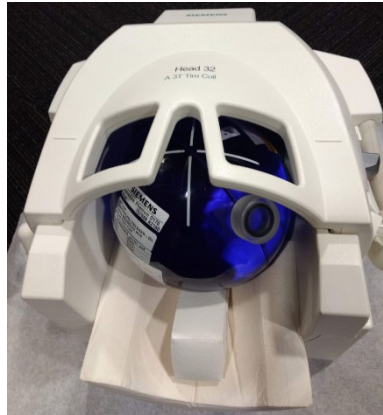
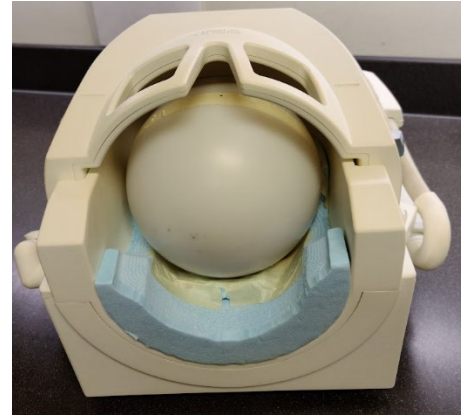

Fig. 1a
Fig. 1b
- 1) Set up the sphere phantom (stored in the cabinet closest to the scanner) in the consistent way. Fig. 1a shows the phantom used before 1/1/2023, and Fig. 1b shows the fNIRN phantom used since 1/1/2023.